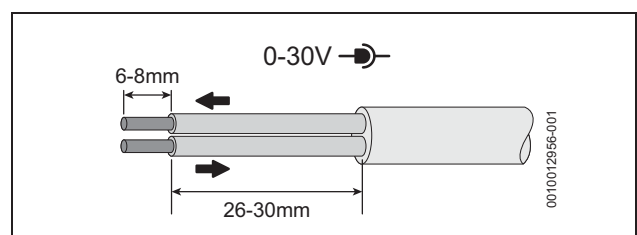

Fig. 66 Low voltage (signal cables) preparation
**Low voltage (signal cables), example → figure 66**